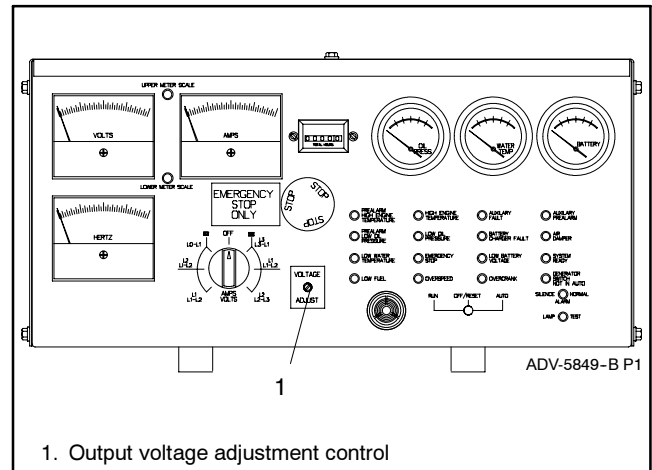

Figure 5-6 Voltage Adjustment
- a. 20–300 kW Models: Adjust the voltage with the voltage adjustment control on the generator set controller front panel (or switchgear). See Figure 5-6.